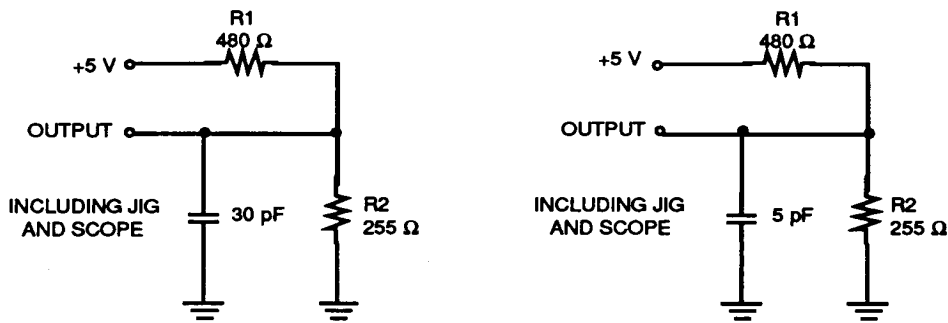

Figure 8. Test Loads
1. Test conditions assume input transition times of less than 3 ns, reference levels of 1.5 V, output loading for specified IOL and IOH plus 30 pF (Figure 8), and input pulse levels of 0 V to 3.0 V (Figure 9).
10. Transition is measured ±200 mV from steady-state voltage with specified loading in Figure 8. This parameter is sampled and not 100% tested.
12. Powerup from Icc2 to Icc1 occurs as a result of any of the following conditions: (1) transition of CE to an active state, (2) falling edge of WE (CE active), (3) transition on any address line (CE active), or (4) transition on any data line (CE and WE active). The device automatically powers down from Icc2 to Icc1 after tI_{CH}ICL has elapsed from any of the prior conditions. This means that power dissipation is dependent on only cycle rate, not on chip enable pulse width. The device automatically powers down from Icc2 to Icc1 after tI_{CH}ICL has elapsed from any of the prior conditions. This means that power dissipation is dependent on only cycle rate, not on chip enable pulse width.
1. Test conditions assume input transition times of less than 3 ns, reference levels of 1.5 V, output loading for specified I_{OL} and I_{OH} plus 30 pF (Figure 8), and input pulse levels of 0 V to 3.0 V (Figure 9).
7. Transition is measured ± 200 mV from steady-state voltage with specified loading in Figure 8. This parameter is sampled and not 100% tested.
9. Powerup from I_{CC2} to I_{CC1} occurs as a result of any of the following conditions: (1) falling edge of $\overline{\text{CE}}$, (2) falling edge of $\overline{\text{WE}}$ ($\overline{\text{CE}}$ active), (3) transition on any address line ($\overline{\text{CE}}$ active), or (4) transition on any data line ($\overline{\text{CE}}$ and $\overline{\text{WE}}$ active). The device automatically powers down from I_{CC2} to I_{CC1} after tICHICL has elapsed from any of the prior conditions. This means that power dissipation is dependent on only cycle rate, not on chip select pulse width.